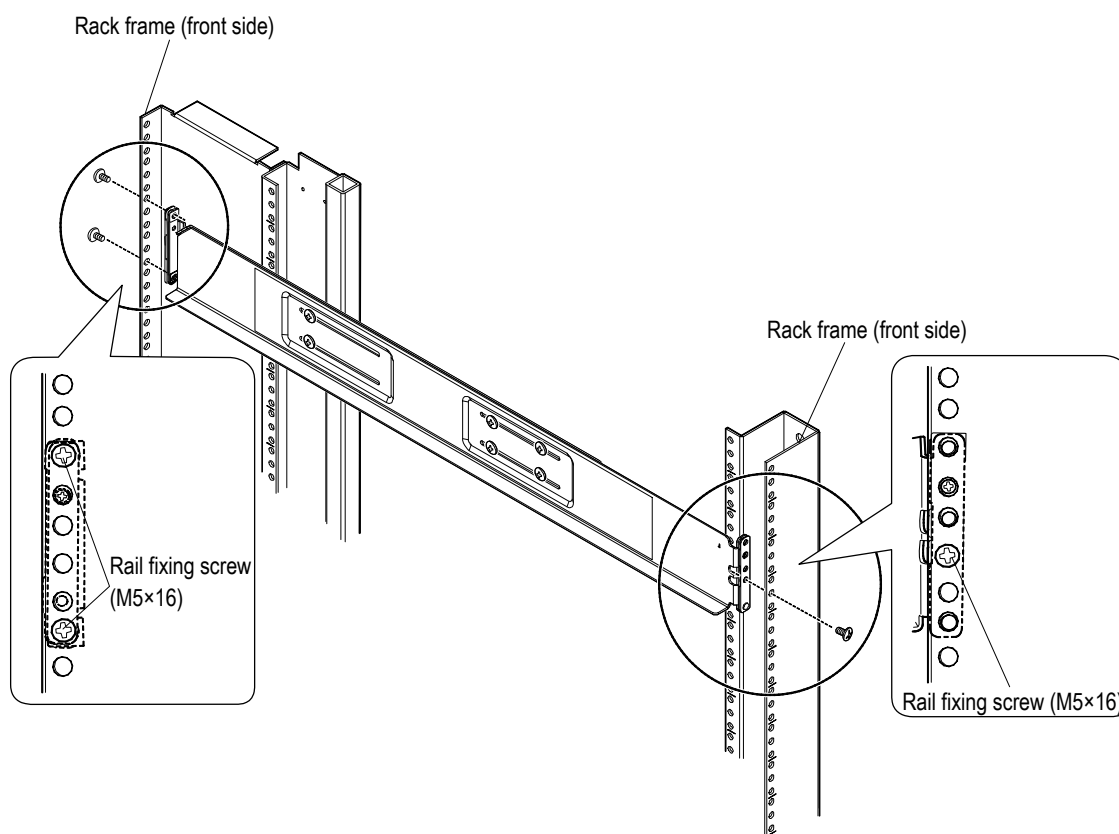

Figure 2.2.19 Installing Rack Rails (Circular Hole) for Controller Box (3U)-2
- (vii) Install the front rail (R) in the rack, and then fix it with one screw (M5×16) (See Figure 2.2.19).
- (viii) Install the rear rail in the rack, and then fix it with two screws (M5×16) (See Figure 2.2.19).
- (ix) Tighten the six washer screws (M4×10) which were temporarily fastened in the step (v) to fix them (See Figure 2.2.19).
- (x) Fix the front rail (L) and the rear rail (L) in the rack frame in the same way following the steps (i) to (ix).